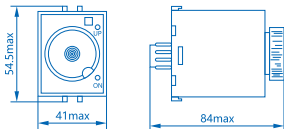
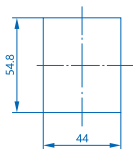

Figure 1 Overall Size of JSZ3A-, C-, F, K, Y
Figure 4 Hole Size of Panel Mounting
3.1 Overall, installation size: see Fig 1~Fig 4, unit: mm.